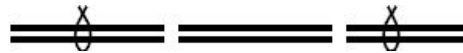

Figure 4.9-1 Bundled Bars for Plan & Elevation
Bundled bars shown in the plan and elevation shall be shown as in Fig. 4.9-1.
- B) Stirrups and other bars shown in profile shall be drawn with a single bold line at scales below $\frac{1}{2}''=1'$. At scales $\frac{1}{2}''=1'$ and larger, it may be advantageous to draw them with scale bends and double filled or hatched lines, see fig. 4.9-1.